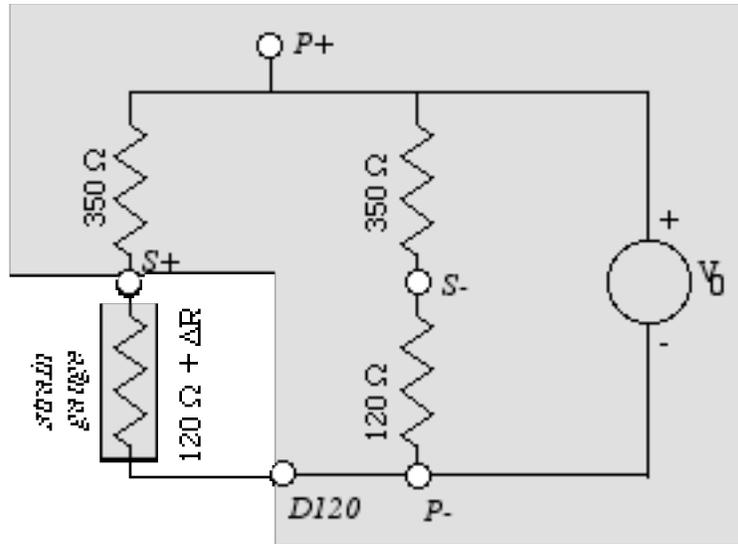

Figure 2. Strain Gauge Wiring Diagram (Wheatstone Bridge Circuit) (labeled terminals shown as white circles)
Figure 2 shows the wiring diagram for each strain gauge. In the lab, you will connect one lead from the strain gauge to the terminal on the strain gauge reader labeled $S+$ and the other lead to the terminal labeled $D120$. The strain gauge reader then measures the voltage between $S+$ and $S-$ and from this determines the change in strain gauge resistance, ΔR .
4. Referring to Figure 2, let V_0 be the voltage difference between $P+$ and $P-$. If the change in resistance of the strain gauge is what you computed in #3, what would be the voltage between $S+$ and $S-$ in the Wheatstone bridge circuit, in terms of V_0 ?